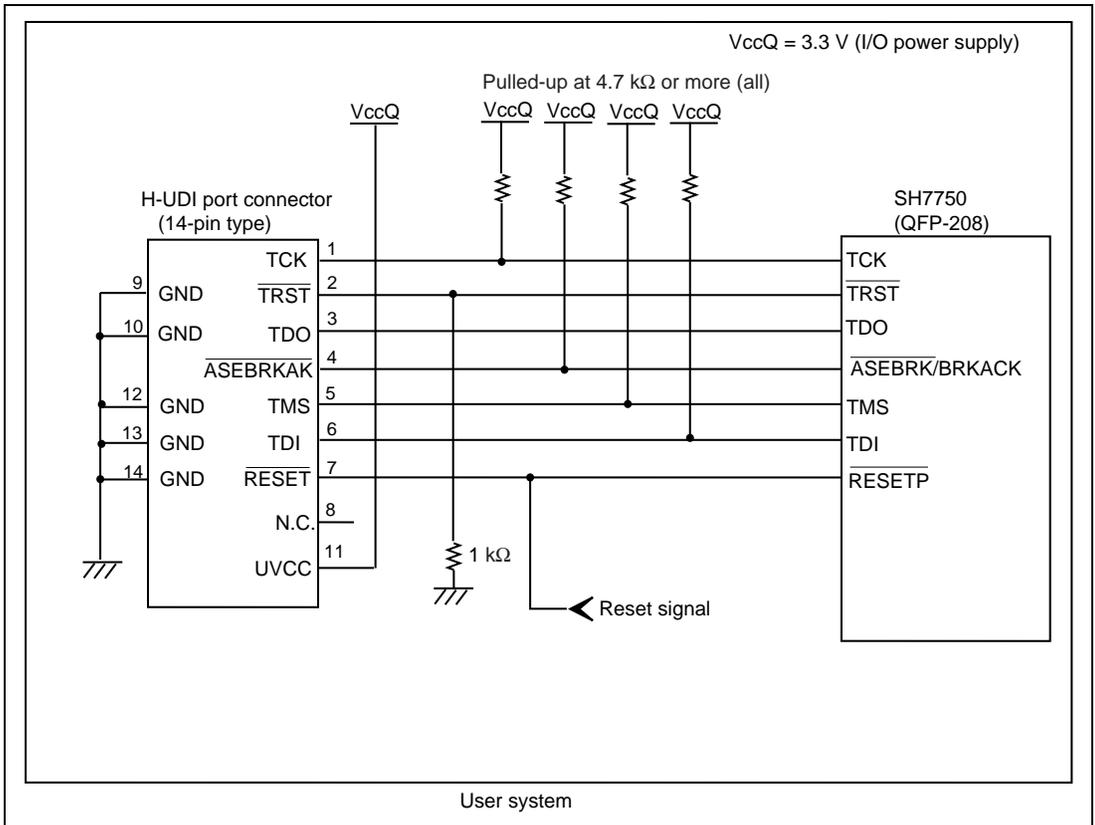
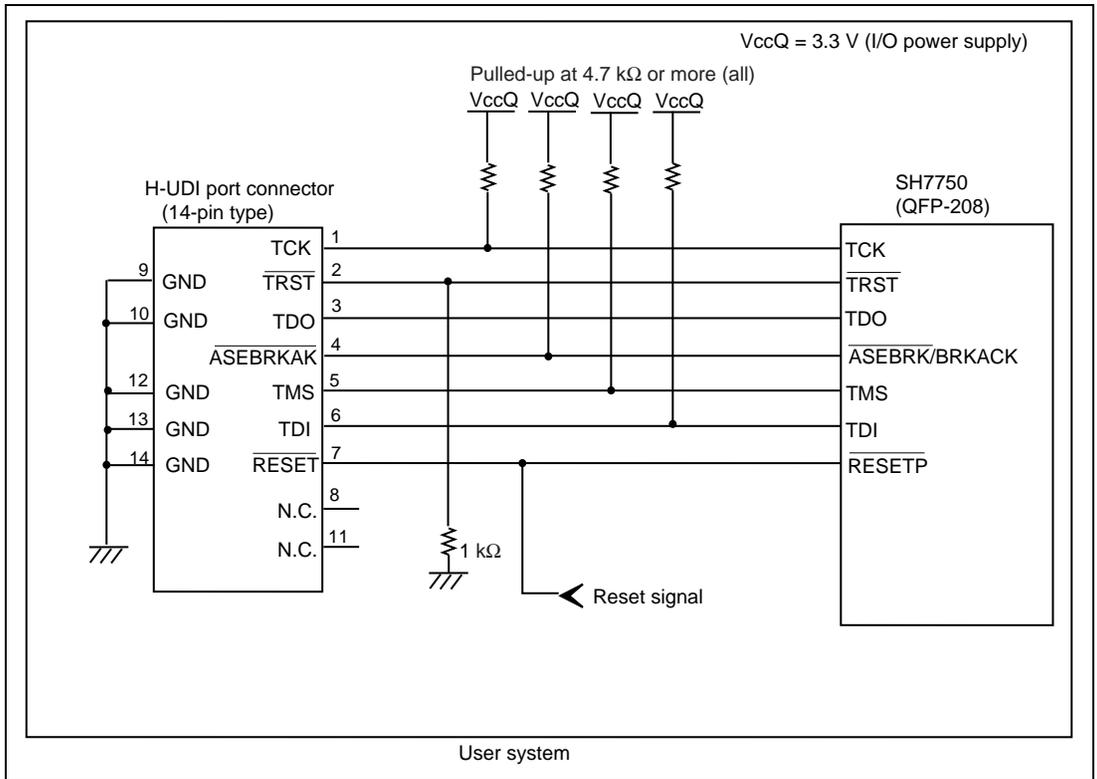

Figure 1.2 Recommended Circuit for Connection between the H-UDI Port Connector and MPU when the Emulator is in Use (14-Pin Type UVCC Connected)
Figure 1.3 Circuit for Connection between the H-UDI Port Connector and MPU when the Emulator is in Use (14-Pin Type UVCC Not Connected*)
Figure 1.2 shows a recommended circuit for connection between the H-UDI port connector and the MPU when the emulator is in use. Figure 1.3 shows a circuit for connection when UVCC is not connected.
4. When the power supply of the user system is turned off, supplying VccQ of the user system to the UVCC pin reduces the leakage current from the emulator to the user system. A level shifter that is activated by the internal power supply or user power supply (changed by the switch) is installed in the interface circuit of the emulator. If the user power is supplied to the UVCC pin, the level shifter is not activated as long as no user power is supplied. When the power supply of the user system is turned off, no current flows from the user interface. The I/O voltage level of the user system interface can be the same as that of the VccQ. To operate the emulator with low voltage (lower than 3.3 V), the VccQ must be supplied to the UVCC pin. Make the emulator's switch settings so that the VccQ will be supplied (SW2 = 1 and SW3 = 1) (as shown in figure 1.2).
5. The resistance values shown in figures 1.2 and 1.3 are recommended.
When the circuit is connected as shown in figure 1.2, the switches of the emulator are set as SW2 = 1 and SW3 = 1. For details, refer to section 3.8, Setting the DIP Switches, in the SuperH™ Family E10A-USB Emulator User's Manual.
When the circuit is connected as shown in figure 1.3, the switches of the emulator are set as SW2 = 0 and SW3 = 1. For details, refer to section 3.8, Setting the DIP Switches, in the SuperH™ Family E10A-USB Emulator User's Manual.